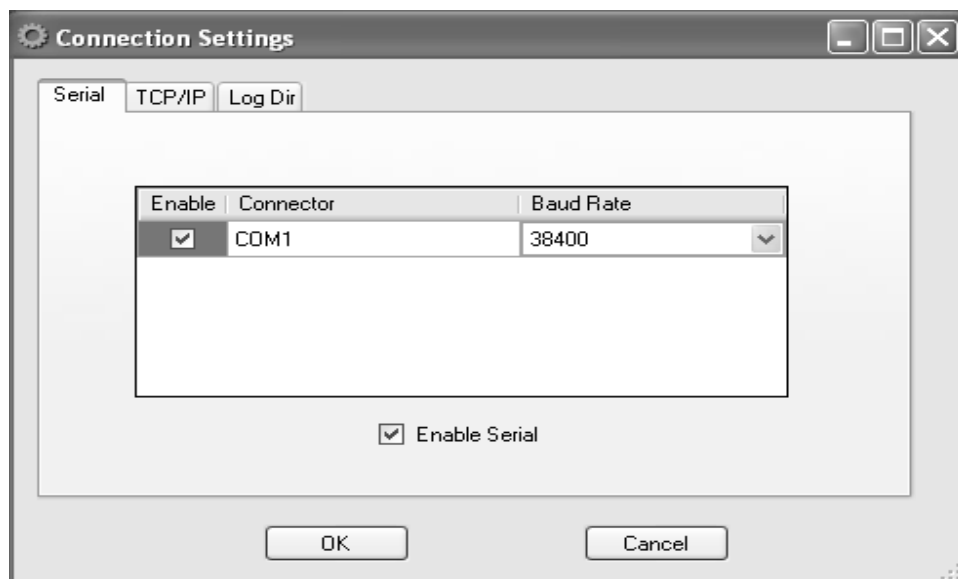

Fig. 2-13. Screenshot of 'Serial' selection in the Connection Settings dialog box
4. Click the 'Main' menu of the UGA software, and select 'Connection Settings'. The following dialog box will appear as shown in Fig. 2-13.